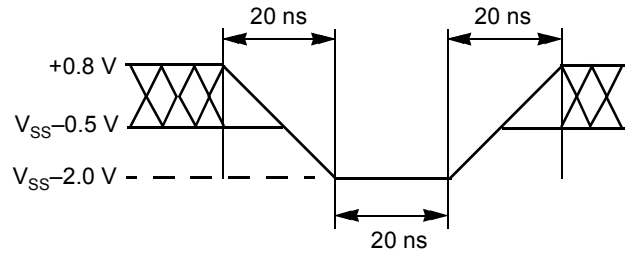
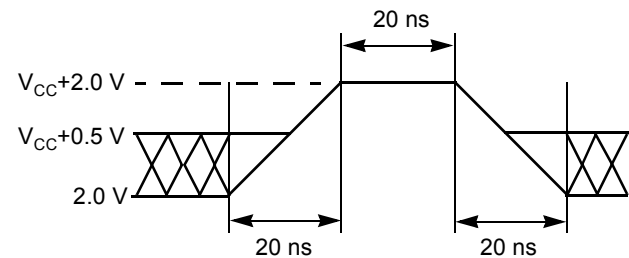

Figure 13. Maximum Negative Overshoot Waveform
Figure 14. Maximum Positive Overshoot Waveform
1. Minimum DC voltage on input or I/O pins is -0.5 V. During voltage transitions, input or I/O pins may overshoot V_{SS} to -2.0 V for periods of up to 20 ns. Maximum DC voltage on input or I/O pins is V_{CC} +0.5 V. See Figure 13. During voltage transitions, input or I/O pins may overshoot to V_{CC} +2.0 V for periods up to 20 ns. See Figure 14.